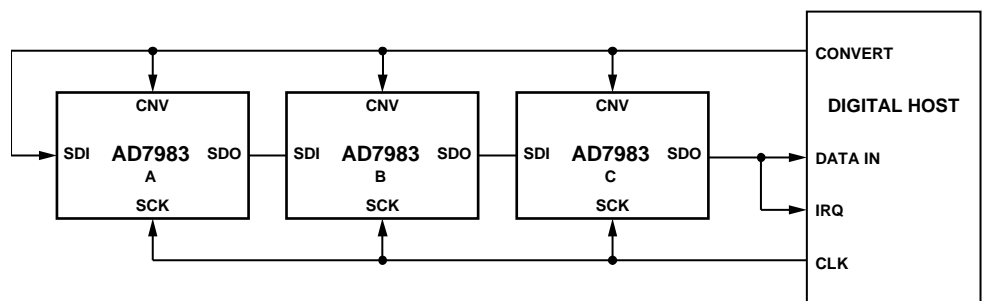
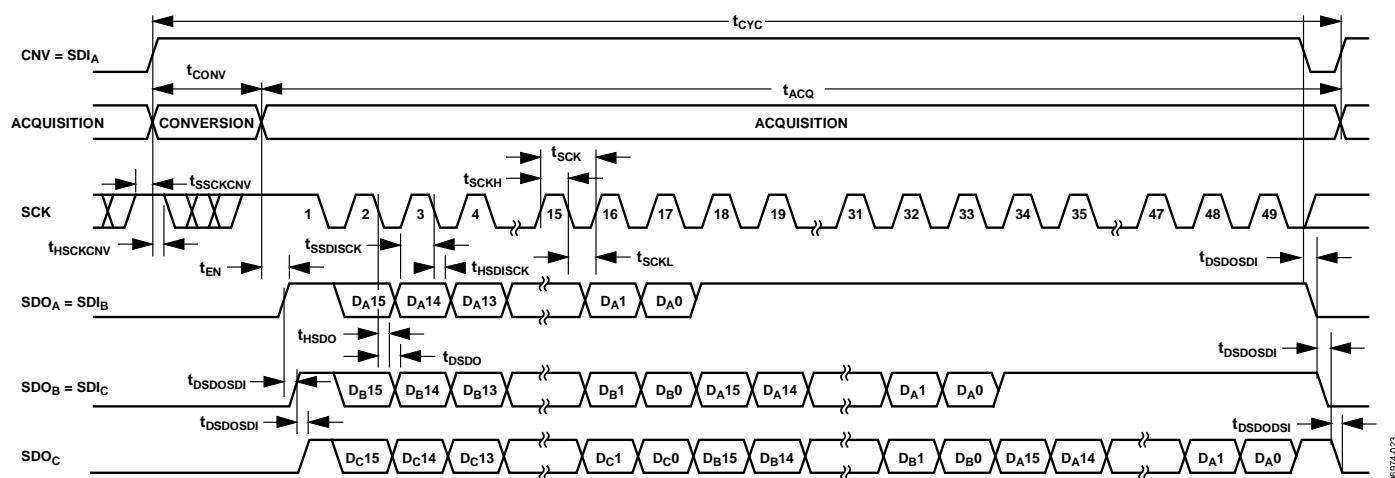

Figure 35. Chain Mode with Busy Indicator Connection Diagram
Figure 36. Chain Mode with Busy Indicator Serial Interface Timing
- In chain mode if SCK is high during the CNV rising edge (see Figure 36).
A connection diagram example using three AD7983s is shown in Figure 35, and the corresponding timing is given in Figure 36.
When SDI and CNV are low, SDO is driven low. With SCK high, a rising edge on CNV initiates a conversion, selects the chain mode, and enables the busy indicator feature. In this mode, CNV is held high during the conversion phase and the subsequent data readback. When all ADCs in the chain have completed their conversions, the SDO pin of the ADC closest to the digital host (see the AD7983 ADC labeled C in Figure 35) is driven high. This transition on SDO can be used as a busy indicator to trigger the data readback controlled by the digital host. The AD7983 then enters the acquisition phase and goes into standby mode. The data bits stored in the internal shift register are clocked out, MSB first, by subsequent SCK falling edges. For each ADC, SDI feeds the input of the internal shift register and is clocked by the SCK falling edge. Each ADC in the chain outputs its data MSB first, and $16 \times N + 1$ clocks are required to readback the N ADCs. Although the rising edge can be used to capture the data, a digital host using the SCK falling edge allows a faster reading rate and, consequently, more AD7983s in the chain, provided the digital host has an acceptable hold time.